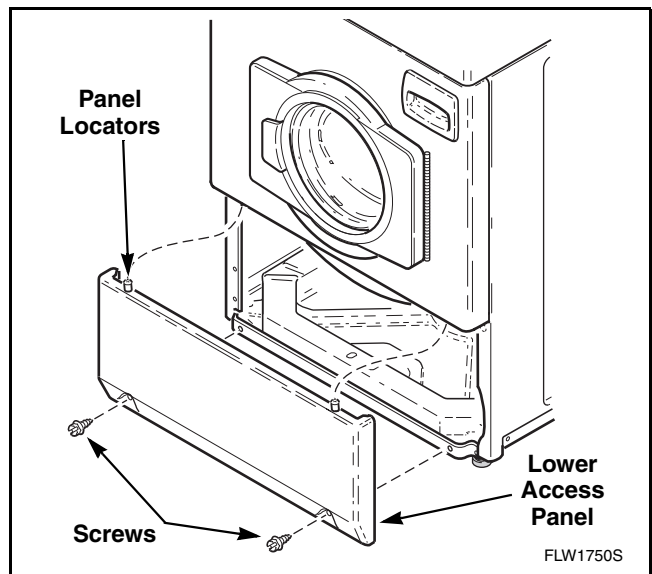

Figure 8
- While supporting the lower access panel, remove two screws from bottom edge of lower access panel. Refer to *Figure 8*.
- a. While supporting lower access panel, remove two screws from bottom edge of panel and remove panel. Refer to *Figure 8*.
- (1) While supporting lower access panel, remove two screws from bottom edge of panel and remove panel. Refer to *Figure 8*.